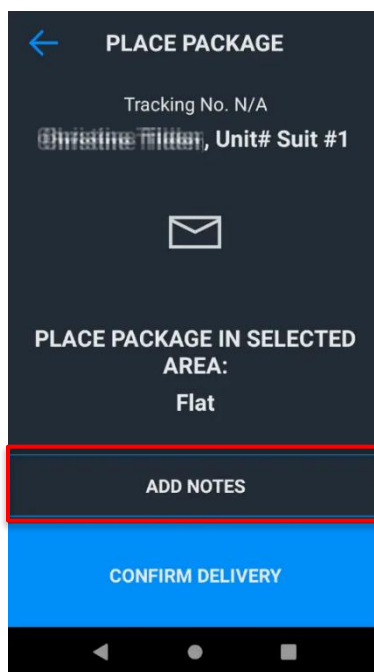

Figure 23: Add Notes option
6. In the Place Package window, tap **Add Notes**, see Figure 23.